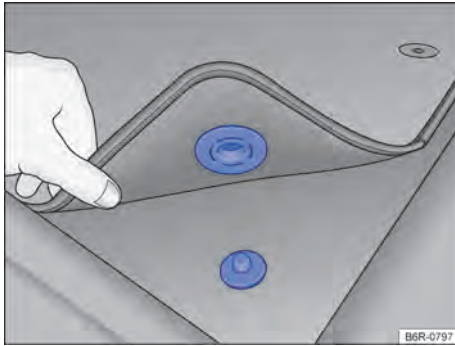

Fig. 22 Driver side mat attached to the floor pin.
- ✓ The floor mat in the footwell on the driver side must be securely fastened to ensure the pedal area is unobstructed. The driver side mat might be attached to the floor pin → Fig. 22.